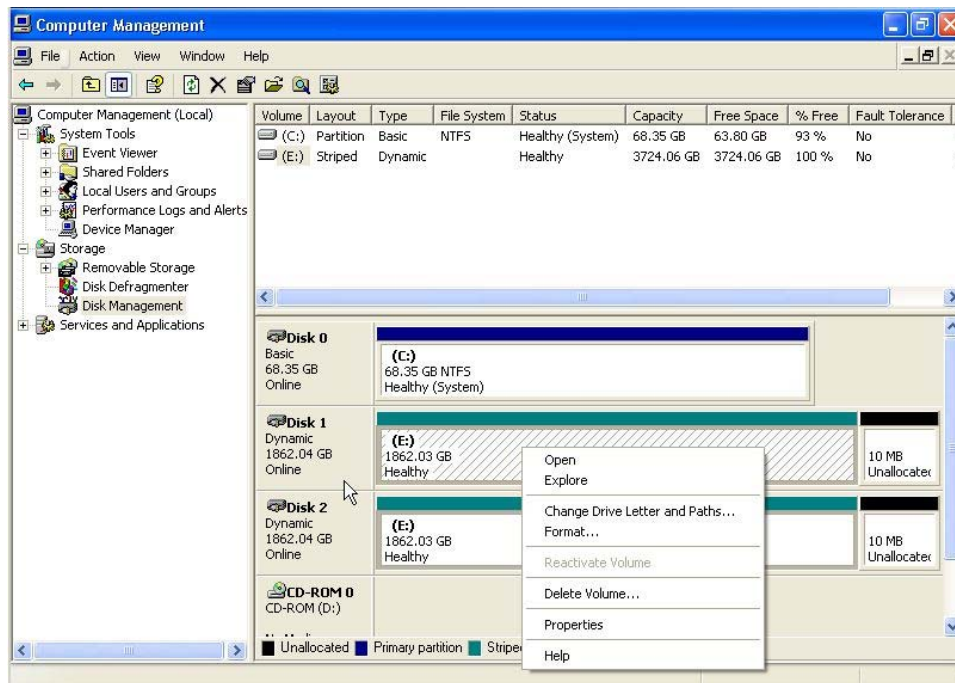

FIGURE 6-35. Computer Management Screen, Showing the Pop-Up Menu and “Format...”.
15. At the center of the screen, right-click on the “(E:)” drive at Disk 1 or Disk 2. From the pop-up menu select “Format...”. See Figure 6-35.